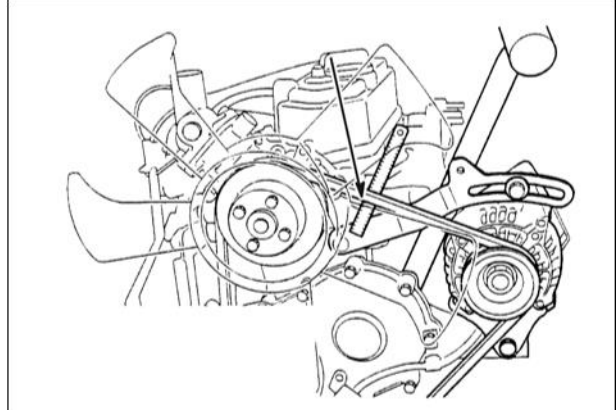

Figure 38
14. Install V-belt (Figure 38). Install alternator adjusting bolt. Torque bolt to values listed in Section 14 - Engine Specifications.